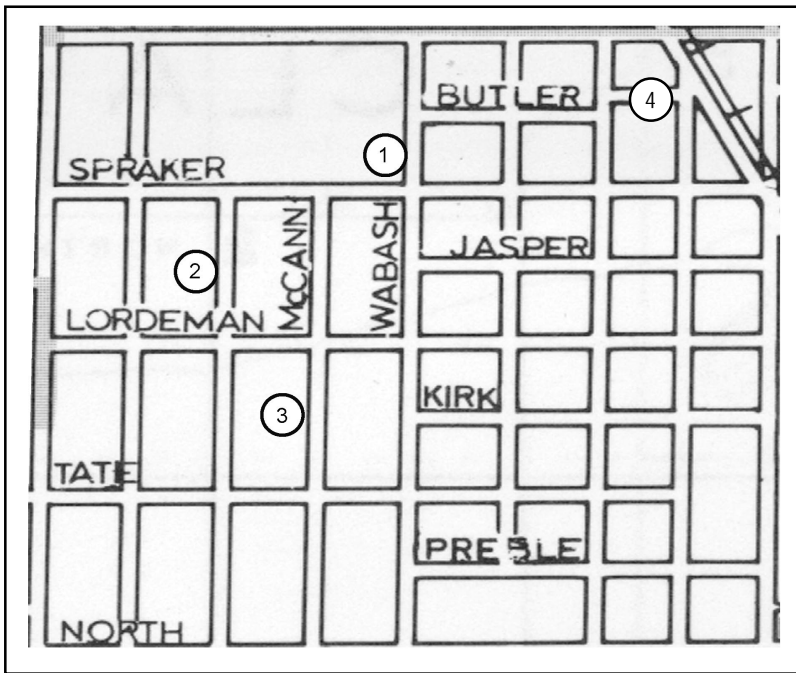

Figure 1. Example of a contaminant source inventory working map
- When you see something that raises a question in your mind, note its location with a number on the map your team leader has given you. (See Figure 1 for an example of a survey map.)